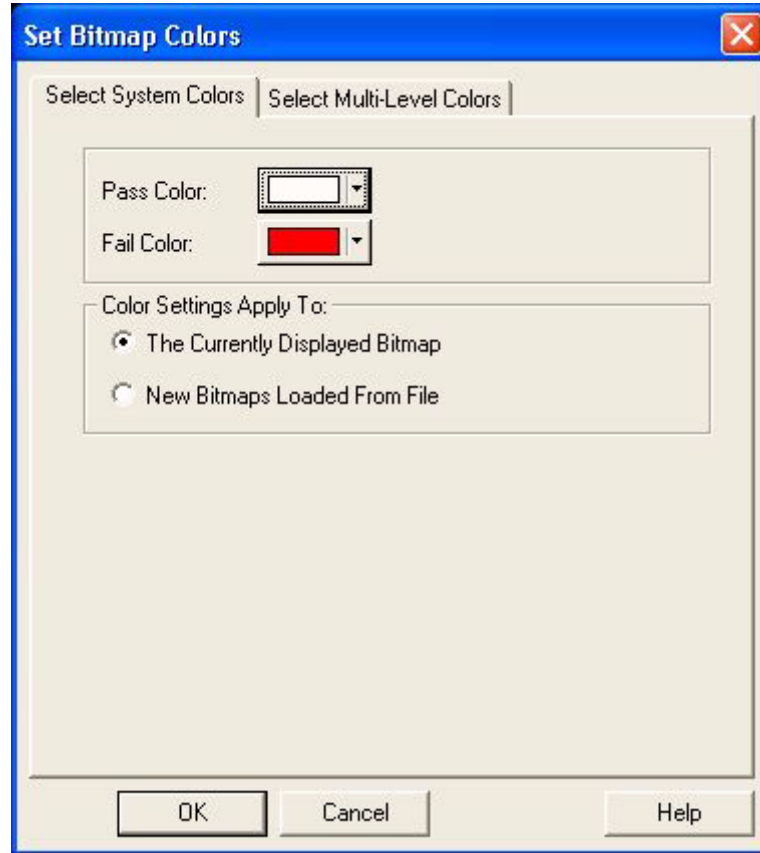

Figure 8-75. Set Bitmap Colors Dialog Box White Passing Bits
- 2 Selecting the Pass Color drop-down list box displays its color palette and selecting the white color box in the palette changes the Pass Color to white (Figure 8-75).